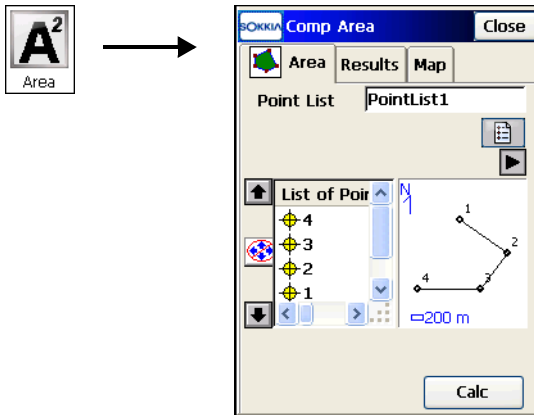

Figure 10-12. By Points
1. On the *Comp Area* screen (Figure 10-12 on page 10-12), select a point list that contains the points constituting the vertices of the polygon. Use the arrow buttons to change the order of the points (and thus the shape of the polygon).